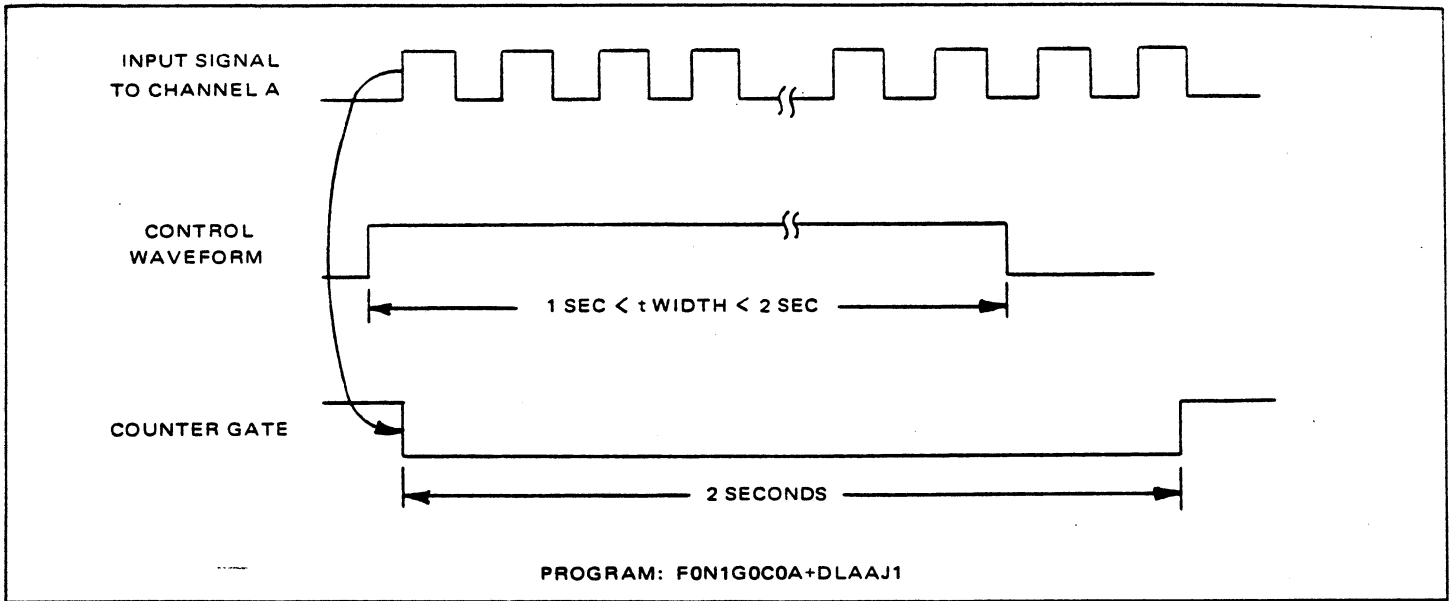

Figure 3.9 - Selective Gate Example 2
3.2.11.3.3.1 When programmed as shown above and provided with a control waveform with a length greater than one second but less than two seconds the counter will keep the measurement gate open for two seconds as shown in Figure 3.9.